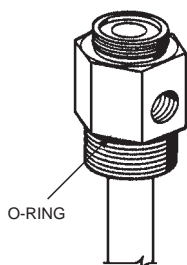

FIGURE 4
- b. Clean and coat O-ring with a good grade of extreme temperature grease. See Figure 4.